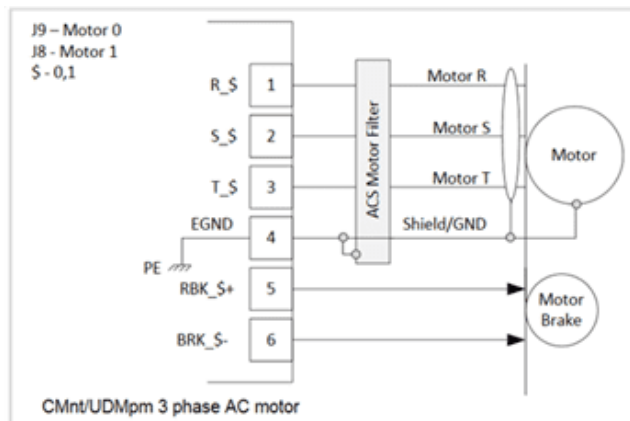

Figure 3-17. Three-phase motor connection
A three-phase motor connection is depicted in Figure 3-17. An optional motor filter is shown in series between the drive and the motor. Use a shielded cable, terminated in the EGND pin which is internally connected to the chassis (PE). If needed, the shield/GND may be connected to the motor's chassis to provide a seamless common ground reference.